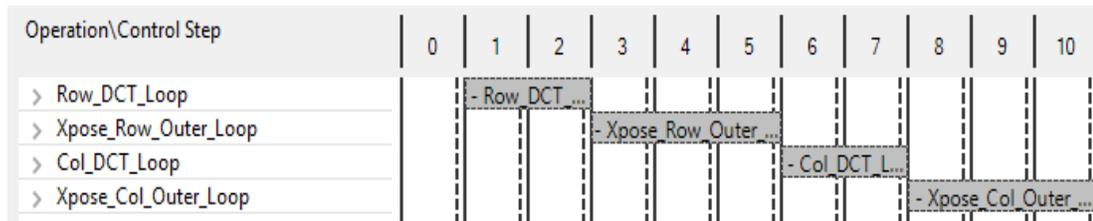

Figure 6-10: DCT\_2D Performance View
6. In the Module Hierarchy pane, click the function **dct\_2d** to navigate into the view for this function (Figure 6-10).
In the Performance Profile you can see that the latency of all the loops has been substantially reduced (Row\_DCT\_Loop and Col\_DCT\_loop have been approximately halved from the earlier report in Figure 6-10). However, the majority of the latency is still due to these two loops, each of which calls the `dct_1d` block.